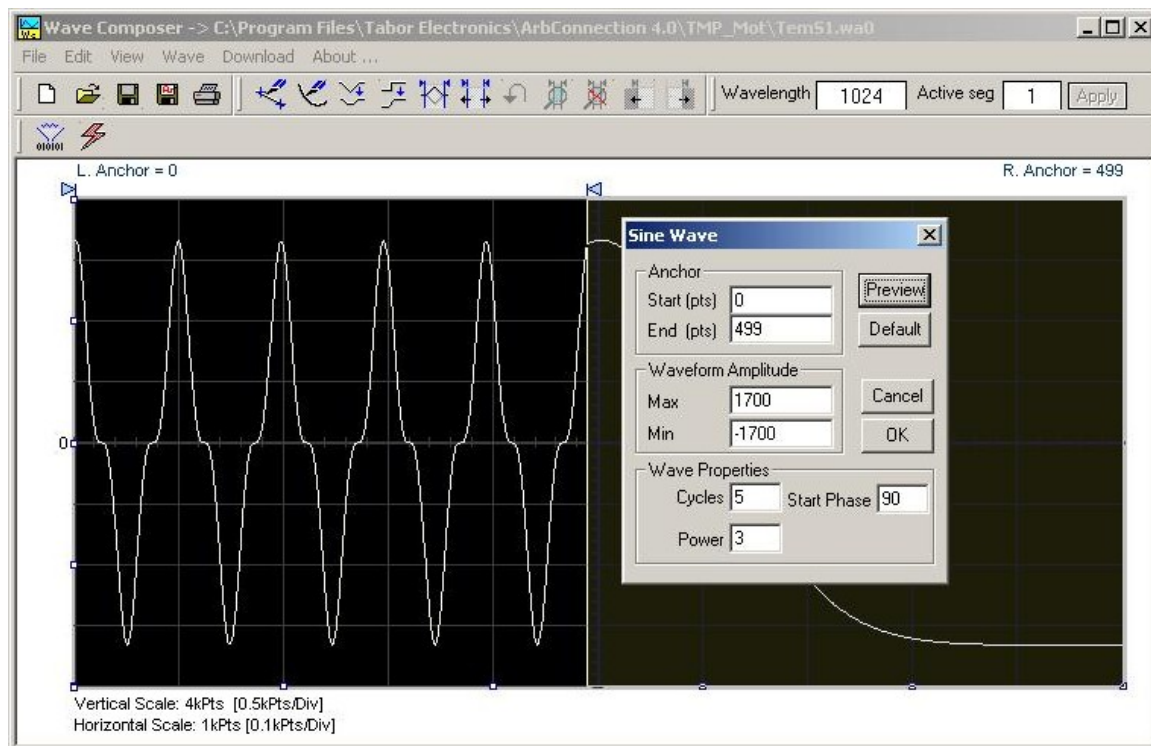

Figure 4-17, Generating Distorted Sine waves from the built-in Library
You can create any waveform from the built-in library using the Wave command. Clicking on one of the Wave options will open a dialog box. An example of the Sine waveform dialog box is shown in Figure 4-17. This dialog box is representative of the rest of the waveforms, so other waveforms will not be described.
Use the following procedure to create sine waveforms from the built-in library. Click on Wave, then sine... the dialog box as shown in Figure 4-17 will appear. You can now start programming parameters that are available in this box.
- 2) You can also place your anchors in a more precise manner from the waveform library by programming the start and end points for the waveform. An example of anchor placement using the sine dialog box is shown in Figure 4-17.